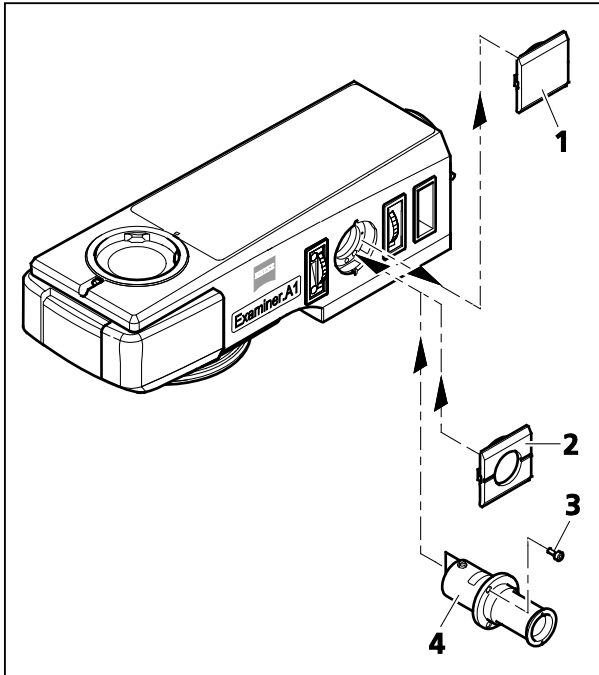

Figure 3-33 Inserting the adjusting aid
- Remove the cap (Figure 3-33/1) from the assembly opening for the adjusting aid.
- Insert the adjusting aid (Figure 3-33/4), and screw it to the stand top part using the three accompanying screws (Figure 3-33/3).
- Put on the cap with the opening (Figure 3-33/2).